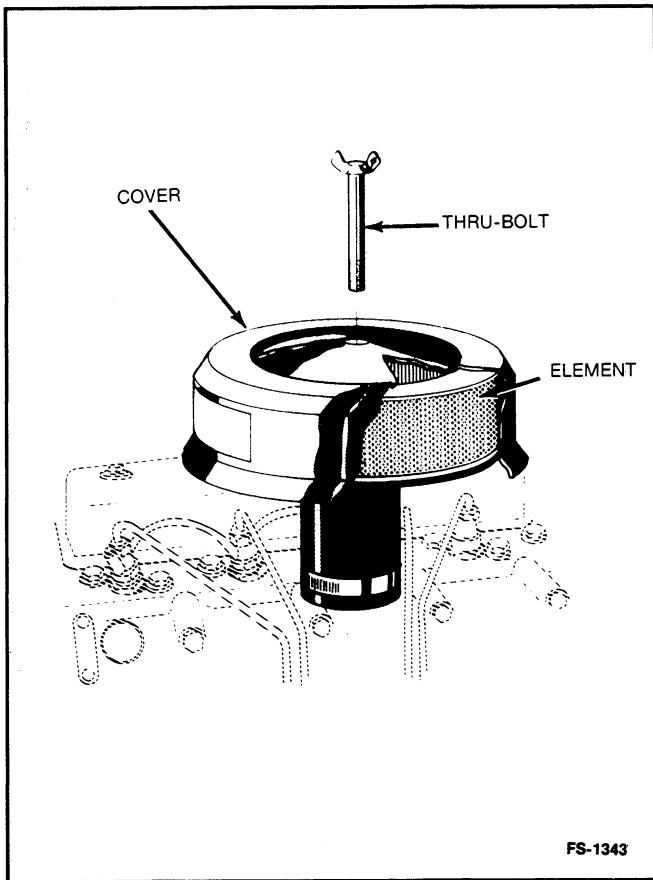

FIGURE 4-15. STANDARD AIR CLEANER
**To Replace the Standard Air Cleaner:** See Figure 4-15.